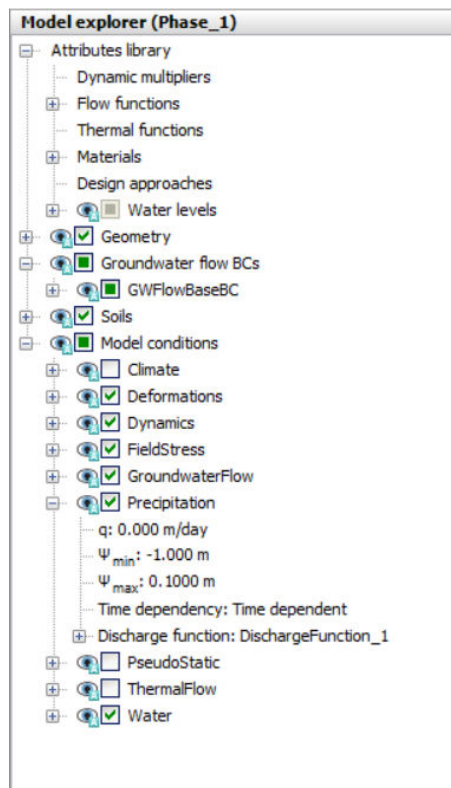

Figure 169: Precipitation in the Model explorer
14. In the **Model explorer** set DischargeFunction\_1 under **Discharge function** as shown in Figure 169 (on page 194).